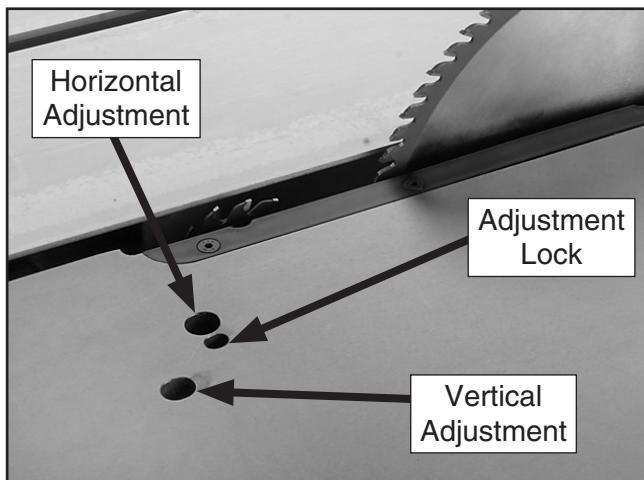

Figure 40. Scoring blade adjustment controls.
3. Unlock the scoring blade adjustment using a hex wrench in the adjustment lock socket (**Figure 40**) and raise the blade to its highest point using a hex wrench in the vertical adjustment socket.